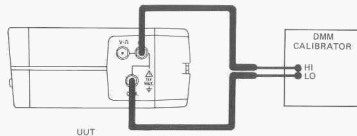

Figure 3-2. Current Test Setup
(1) Select the DC mA function on the UUT.
(2) Connect the equipment as shown in fig. 3-2.
(3) For each step in table 3-5 select the listed UUT range, program the DMM calibrator for the corresponding UUT input, and verify that the UUT displayed value is within the limits listed.
- (1) Select the AC mA function on the UUT.
- (2) Connect the equipment as shown in fig. 3-2.
- (3) For each step in table 3-6 select the listed UUT range, program the DMM calibrator for the corresponding UUT input, and verify that the UUT displayed value is within the limits listed.